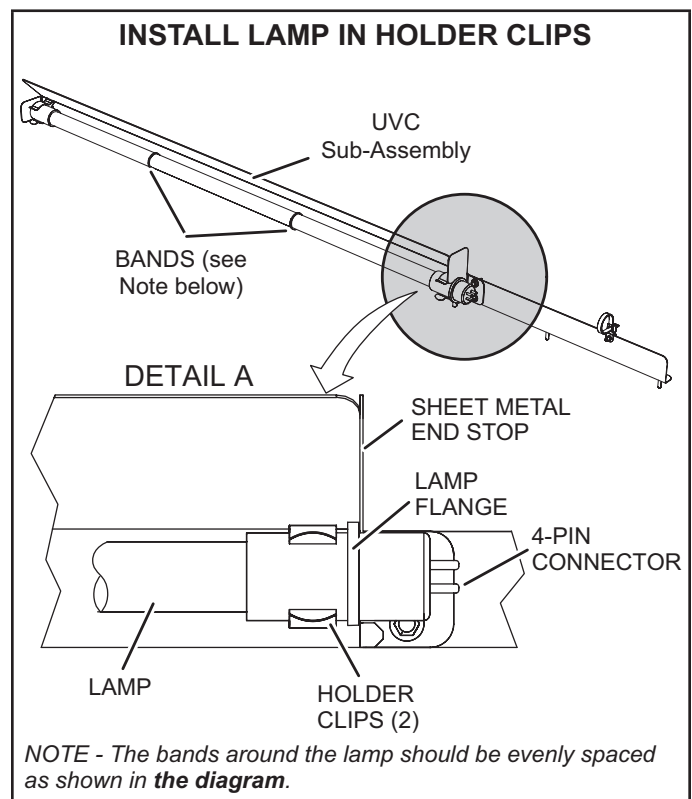

FIGURE 35
- 5 - Remove the (2) mounting screws of the UVC assembly. Carefully slide the complete UVC assembly out through the blower access door.
- 7 - Wear cotton gloves or use a cotton cloth when handling the new lamp. Place the new lamp in the holder clips of the UVC assembly. Verify that the lamp flange at the connector end is sandwiched between the lamp holder clip and the sheet-metal end stop (see FIGURE 35).